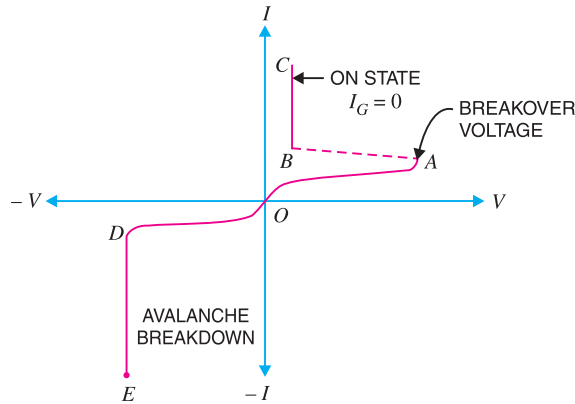

Fig. 20.7
It is the curve between anode-cathode voltage (V) and anode current (I) of an SCR at constant gate current. Fig. 20.7 shows the V-I characteristics of a typical SCR.
(i) Forward characteristics. When anode is positive *w.r.t.* cathode, the curve between V and I is called the forward characteristic. In Fig. 20.7, OABC is the forward characteristic of SCR at $I_G = 0$. If the supply voltage is increased from zero, a point is reached (point A) when the SCR starts conducting. Under this condition, the voltage across SCR suddenly drops as shown by dotted curve AB and most of supply voltage appears across the load resistance R_L . If proper gate current is made to flow, SCR can close at much smaller supply voltage.